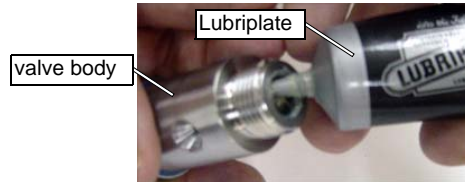

Figure 6-100: Apply Lubriplate to Valve Body Bore
2. Slide the **seal assembly** onto the **stem assembly** shaft with the **O-ring** facing towards the **valve body** (Figure 6-100). Ensure that the seal assembly slips over the **pointed end** of the stem assembly.